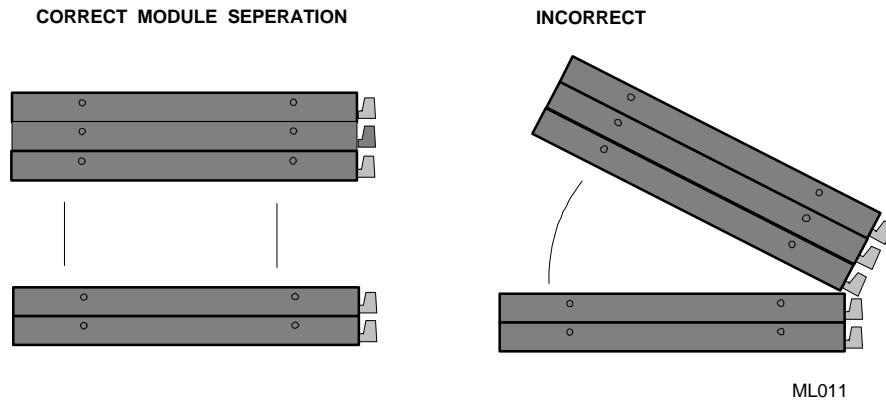

Figure 3-1 Separating Modules without bending connector pins...
5. Carefully separate the layers while keeping them parallel (Figure 3-1). Minimize the amount of twisting or rocking as this will result in bent connector bus pins.